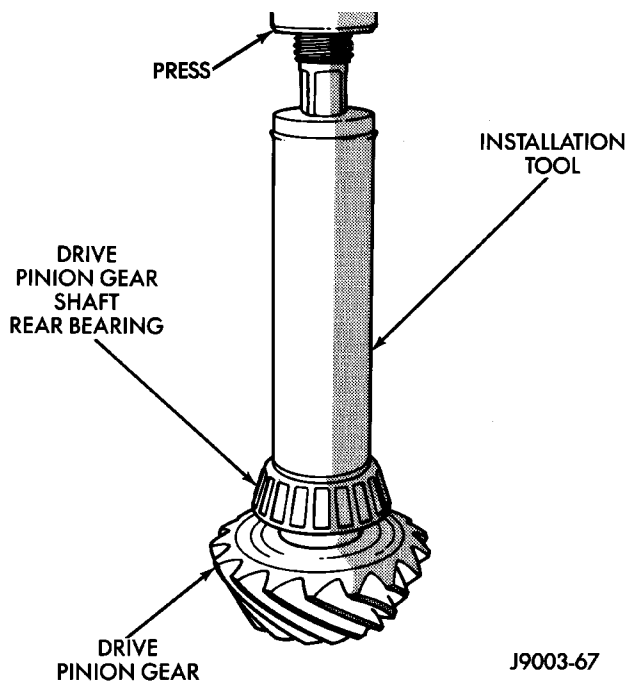

Fig. 46 Shaft Rear Bearing Installation
(4) Place the proper thickness pinion depth shim on the pinion gear.
(5) Install the rear bearing (and slinger if used) on the pinion gear with Installer 6448 (Fig. 46).